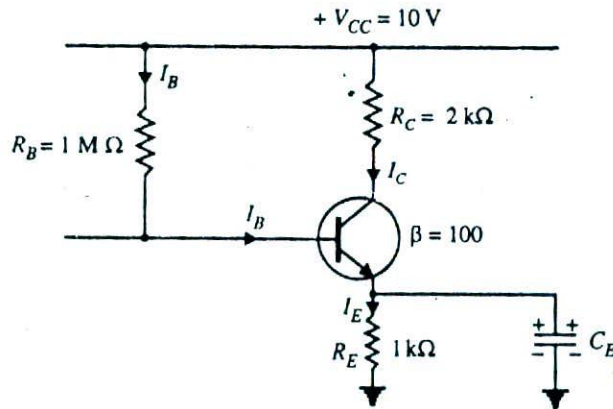

Fig. 11.9
**Example 11.6.** Calculate the values of three currents in the circuit shown in Fig. 11.9.